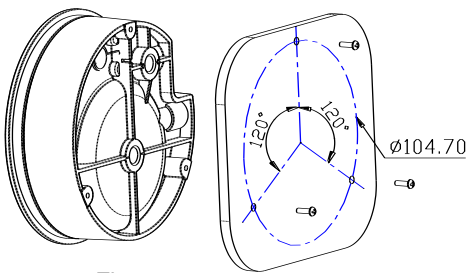

Figure 1
(1) As shown in Figure 1 below, drill 3 equally 120° and 4.5 mm diameters mounting holes on the mounting panel, screw the 3 short mounting screws from the accessory into the 3 mounting holes on the bottom of the gage.